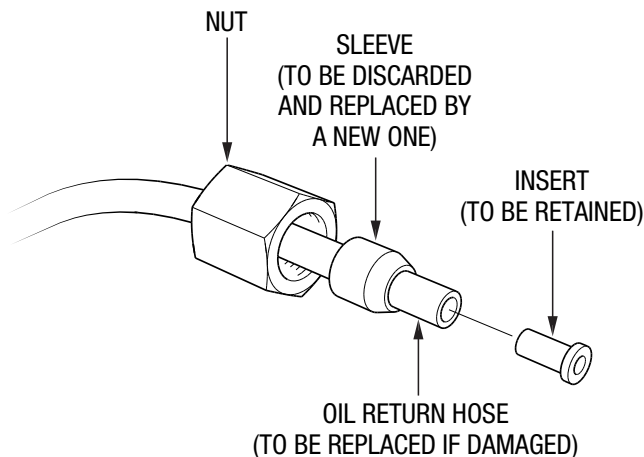

Figure 21. Oil Return Hose Insert Removal
2. Inspect the oil return hose (Figure 21) for damage. Replace immediately (P/N 0190400800) if damaged.
3. Remove and retain the insert from the oil return hose (Figure 21).